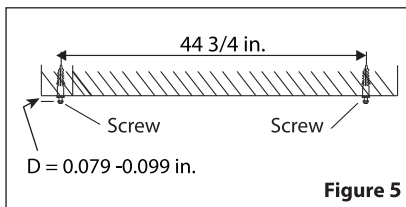

Figure 5
1. Install provided screws directly onto mounting surface. Spacing between screws should be 44 3/4 inches. Gap (D) should be .079-.099 inches. For concrete/drywall surfaces, wall anchors are required. Drill two holes (use a 1/4 inch drill bit) for provided wall anchors then use provided screws (See Figure 5).